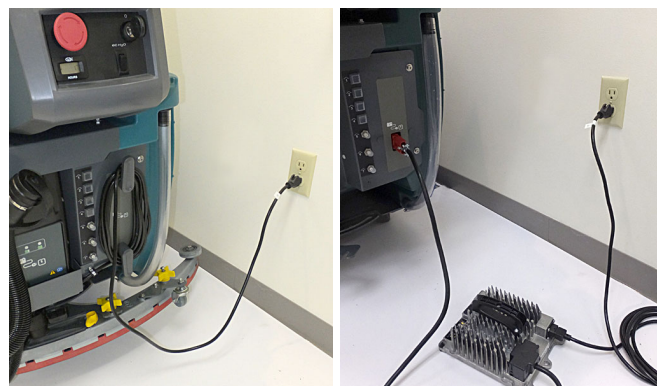

FIG. 63
11. Charge batteries (Figure 63). See BATTERIES.